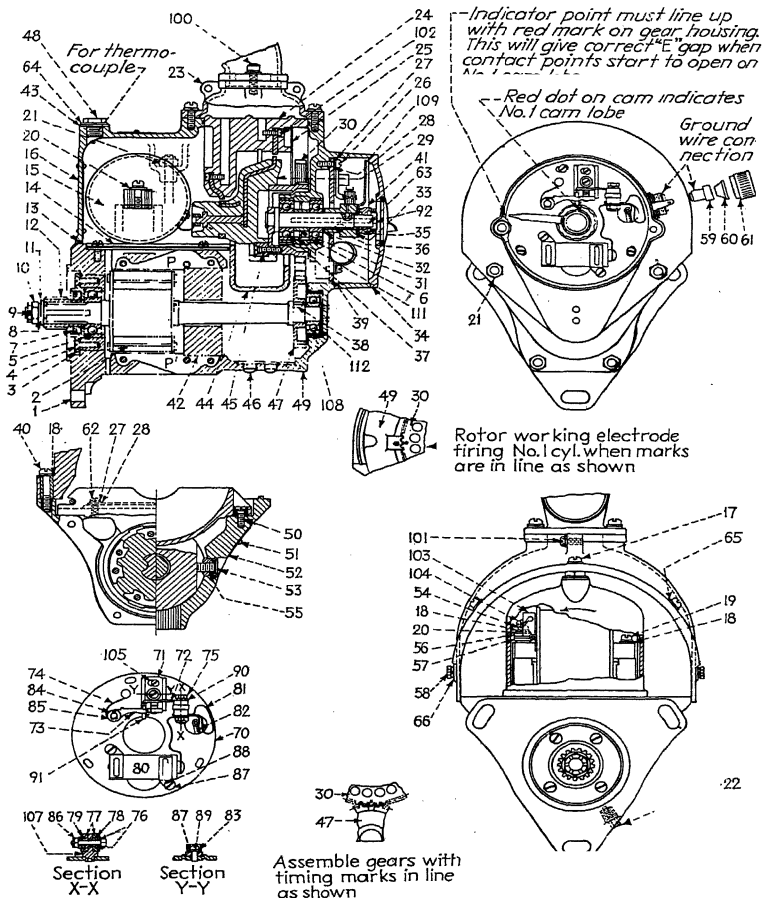

Fig. 9.—Details of American Bosch type SF14LU-6 magneto.
The American Bosch SF14LU-6 magneto is a 14-cylinder, fixed ignition, eight-pole, three-bolt, flange mounted polar inductor-type magneto of counterclockwise rotation, driven direct through a splined coupling. The magneto drive shaft which turns at seven-eighths engine speed rotates the 14-lobe compensating breaker cam at one-half engine speed through a  $1\frac{3}{4}$  to 1 gear ratio between the magneto and breaker camshafts. It is radio-shielded and, complete with radio shield and drive member, weighs  $17\frac{3}{4}$  lb. Figure 9 shows its construction and has the parts numbered.
**Internal Timing.**—Both gears are in correct mesh when the white mark on distributor gear (1) is positioned between the two red marks on the inductor rotor gear (47) in Fig. 9. This can be observed through the hole in the gear housing (3) in Fig. 9.